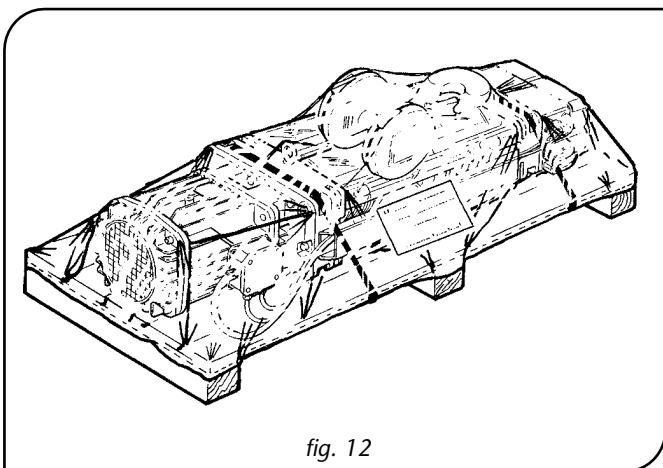

fig. 12
- To facilitate the handling and assembling operations, the hoist is generally delivered attached to a pallet (fig. 12), and it is pre-assembled in its main parts. Consequently, packing and specific protection are excluded.